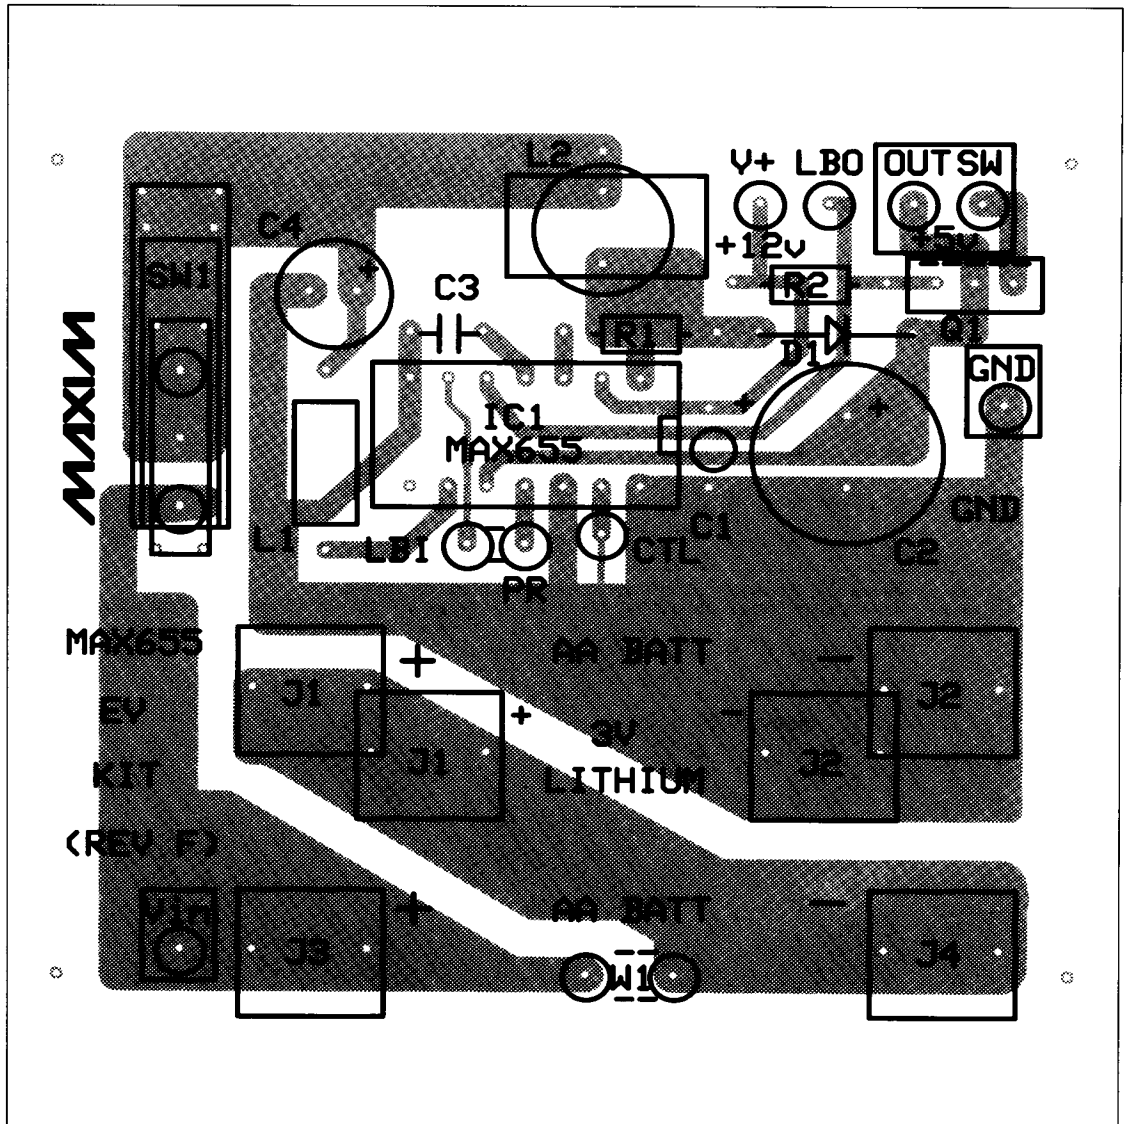

Figure 2. MAX655 EVKIT Component Layout
1. **Build circuit.** Install all parts on PC board as shown in Figure 2. The kit accepts either two AA batteries or a single 3V lithium battery such as Duracell #DL123A; if using a single 3V battery, install jumper W1. Connect LBI to PR with a jumper. Optional parts Q1 and R2 function as a load switch as discussed in the *Output Load Switch* section and may be added later.